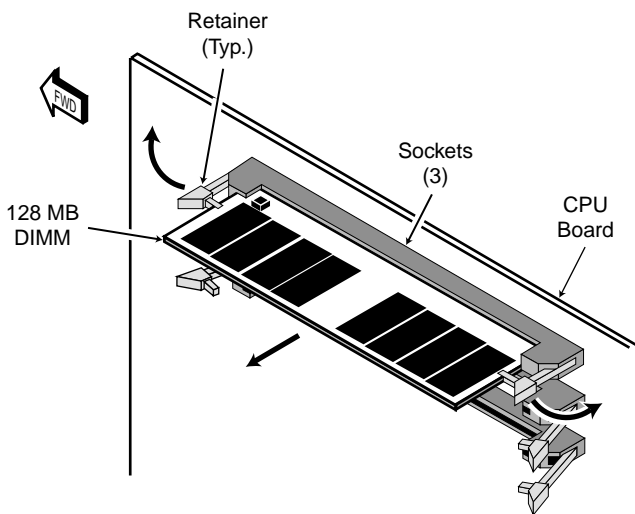

Figure 5-3. DIMM Removal
- [] 1. Refer to Figure 5-3. Carefully disengage the retainers securing the Memory Module by moving them away from the module simultaneously. This action will release the DIMM from its socket.